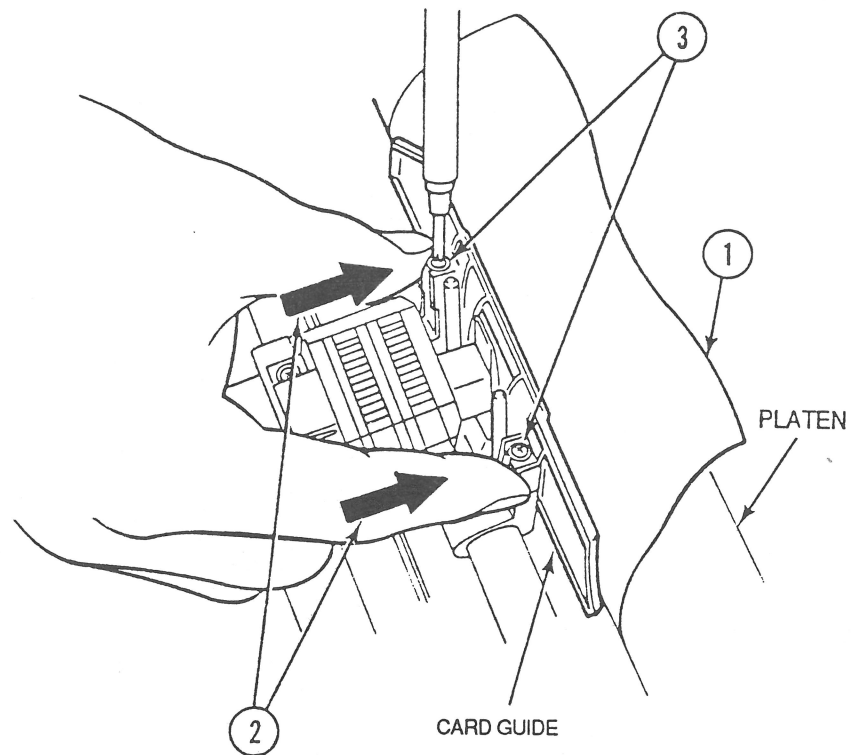

FIGURE 23
5. Roll the 24-lb sheet of paper or the Mylar adjustment sheet between the card guide and the platen (Figure 23, #1).
6. Gently push forward on the card guide until it stops against the paper (Figure 23, #2).
7. While holding the card guide in position, tighten the two set screws (Figure 23, #3) that hold it in position.